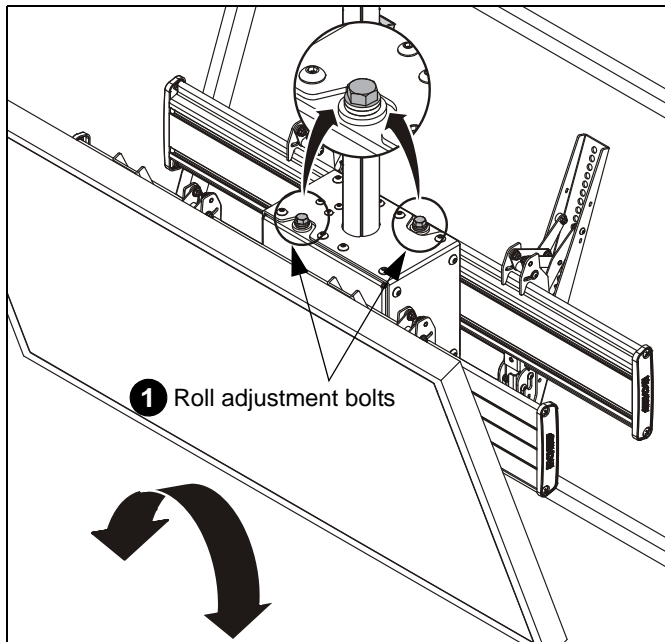

Figure 9
1. Turn the roll adjustment bolt(s) in the direction necessary for the desired roll. (See Figure 9)